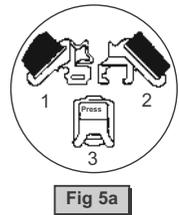

Fig 5a
- Ensure the shoulder straps are threaded in the correct slots for the size of the child. Sit your child in the seat and fasten the buckle over the child by aligning the two shoulder strap tongues numbered (1) and (2) and press firmly into the main buckle numbered (3). (see Fig 5a).
- In the event of an emergency the child should be removed from the seat by pressing the red button on the harness buckle (Fig 5a).